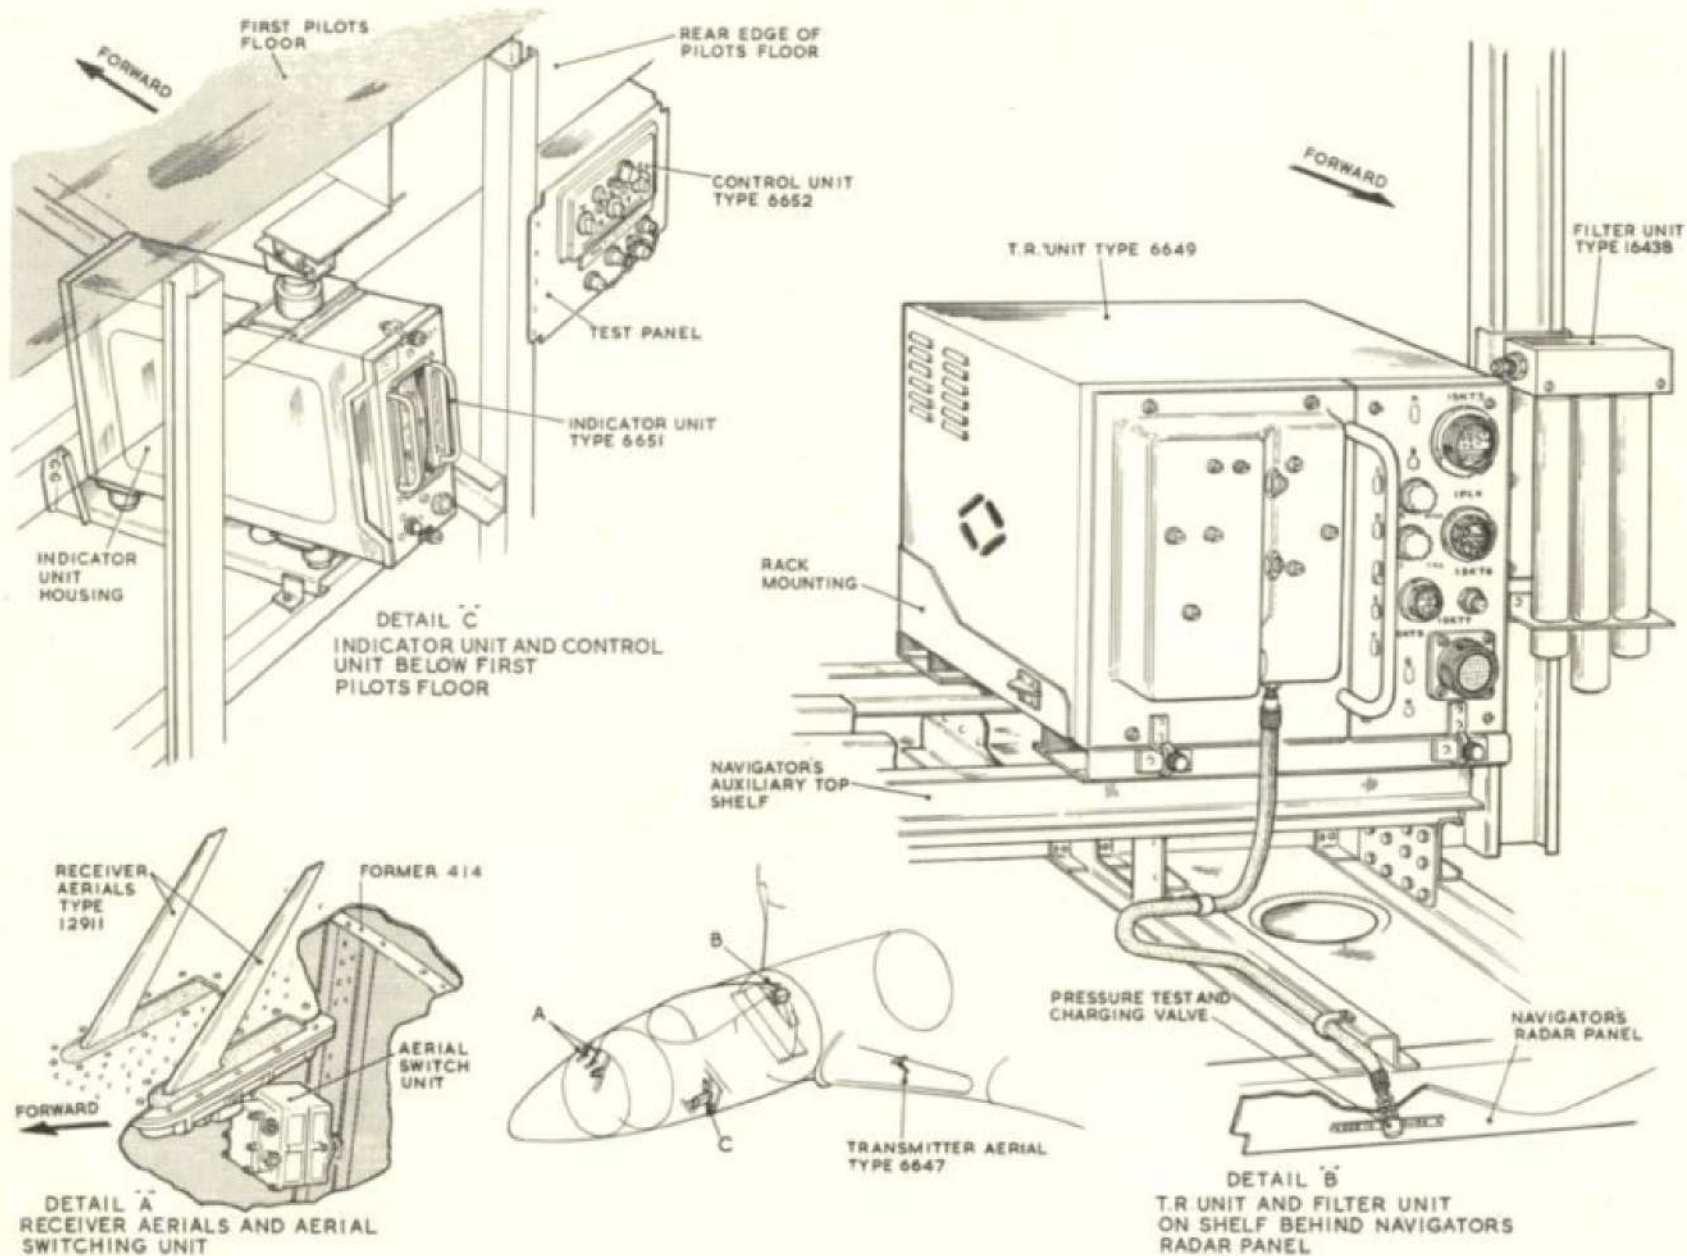

Fig. 2 Location of A.R.I. 5924 equipment
11. The main units of the installation are shown in fig.2 and described briefly in the paragraphs that follow. For more detailed information, reference should be made to A.P.2914 AN.
12. The T.R. unit is mounted on the auxiliary top shelf at the navigator's station as shown in fig.2. A receiver unit, transmitter unit, I.F. amplifying unit, video amplifier, sweep generator and power unit are housed in the assembly and are readily detachable for servicing purposes. Corona discharge is prevented by housing the transmitter unit in a pressurised compartment, which is charged from a valve on the front face of the unit. An internal blower is provided for cooling purposes.
14. The indicator unit is mounted below the rear edge of the first pilot's floor, with the controls facing aft, as illustrated in fig.2. The unit contains a cathode ray tube and its associated power unit, the focus and brilliancy controls being positioned at the front. The trace is read against range scales presented on an edge-lit graticule. Graticule illumination is controlled by a knob on the control unit.
shark fin design and is mounted on the underside of the aircraft centre section (fig.2).
18. The two receiver aerials are of similar shape to the transmitter aerial, and are mounted side by side on top of the aircraft nose structure (fig.2).
on the navigator's panel, as shown in fig.2.